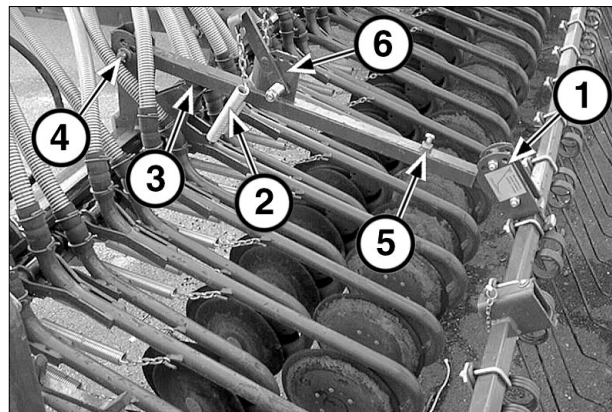

Fig. 24-5
- Tine pressure: With the tension spring (2, fig. 24-5).
- Available space: Set the length of the removable tubes (5) in accordance with the coulters. When fitted, the S-type covering tines must not interfere with the working of the coulters.